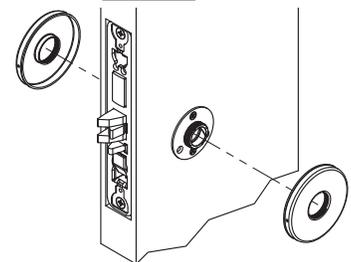

Figure 15
2. Screw roses onto adapter plates. (Figure 15)